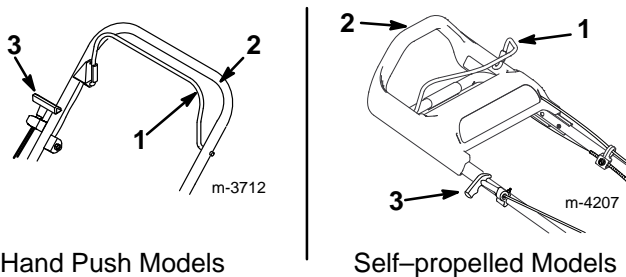

Figure 11
2. Hold the blade control bail against the upper handle (Fig. 11).
- **Manual Starting**—Pull the starter handle lightly until resistance is felt, then pull it sharply (Fig. 11). Allow the rope to return to the handle slowly.